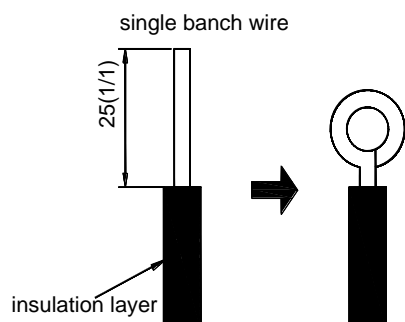

Fig.5.1.1
(1) Connection of Wire and Patch Board Terminal (as shown in fig.5.1.1)